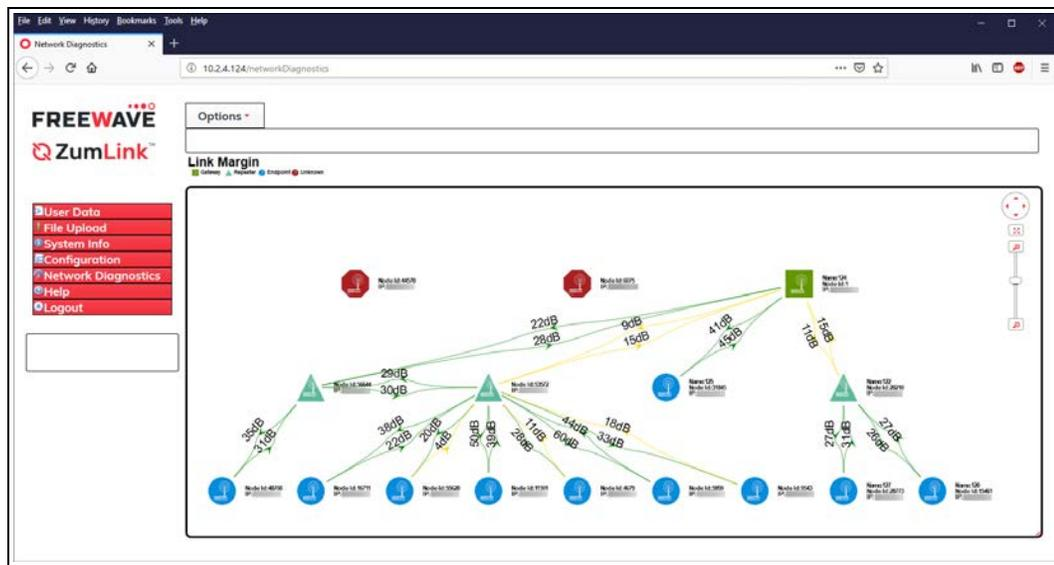

Figure 191: Network Diagnostics window - Breadthfirst
- Click the **Options** list box arrow and select the **Breadthfirst** option to show the Breadthfirst connections in the **Network Diagram**. Figure 191